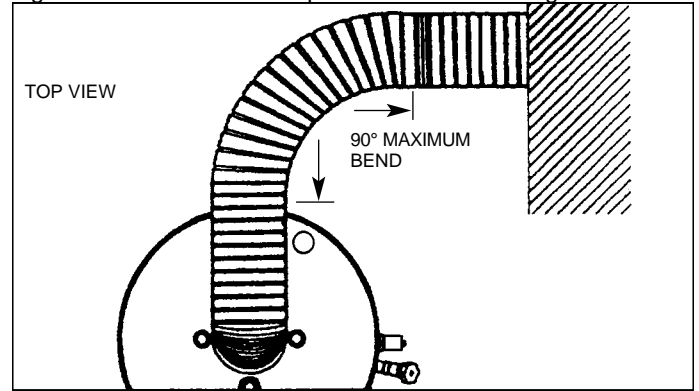
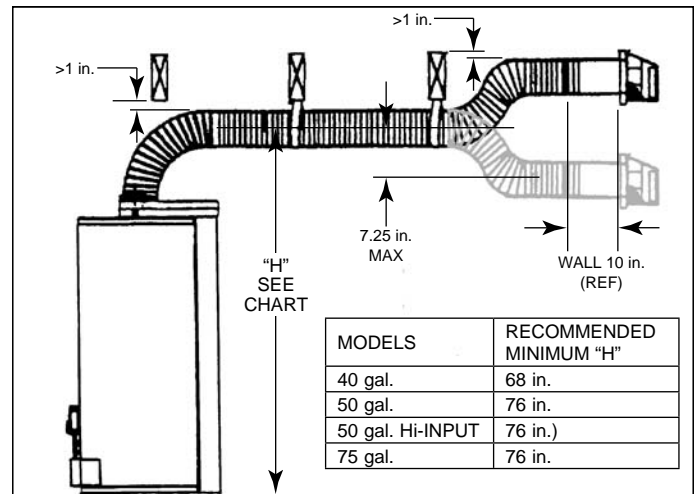

FIGURE 24
FIGURE 25
- B. **Do not combine condition 1 (Figure 24) with condition 2 (Figure 25) in the same installation.**
- C. The maximum allowable drop from vent center-line to vent termination center-line (Figure 25) is 7.25 in..